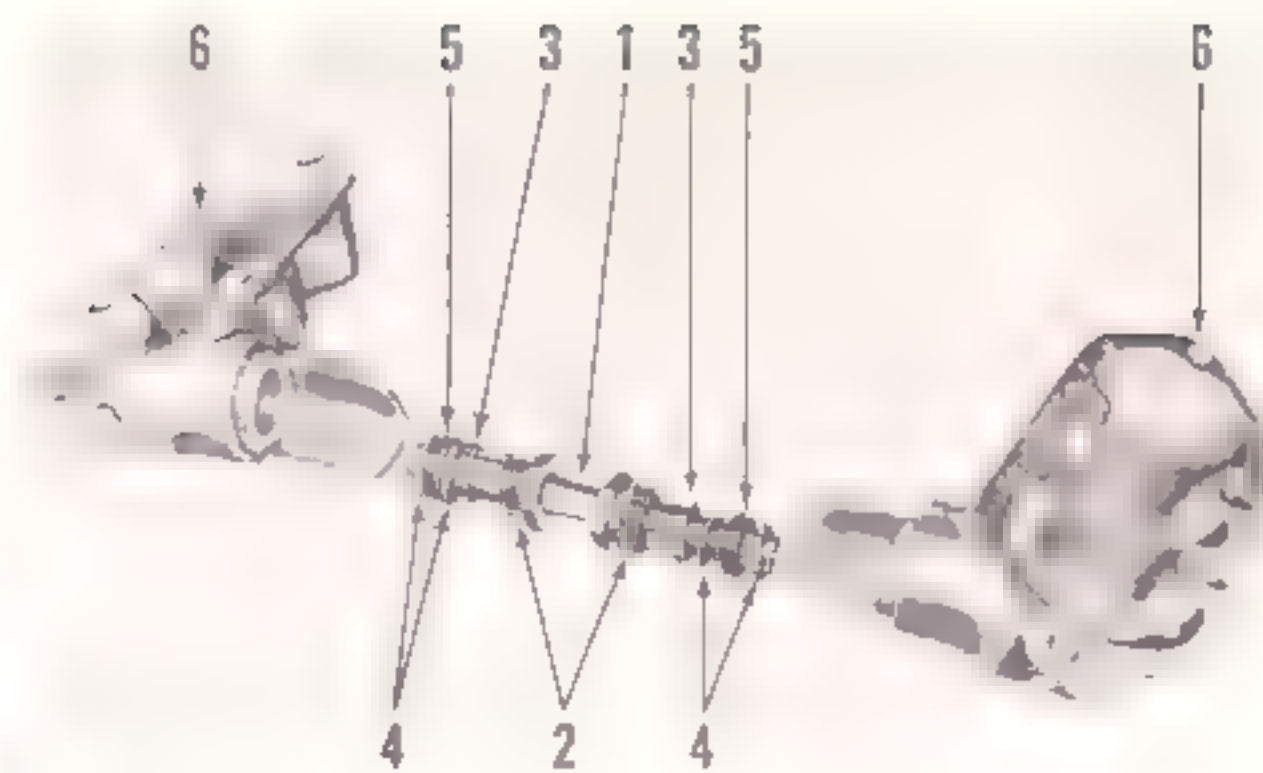

Figure 5-11. Removing rocker box covers in pairs
i. Remove lock wire and back out drain tube connector nuts on all paired rocker box covers. Remove rocker box attaching nuts and washers as prescribed in step *d* above. Remove rocker box covers, utilizing play offered by loosened drain tube nuts to avoid damaging rocker box studs. (See figure 5-11.) Discard gaskets and detach covers and tubes.